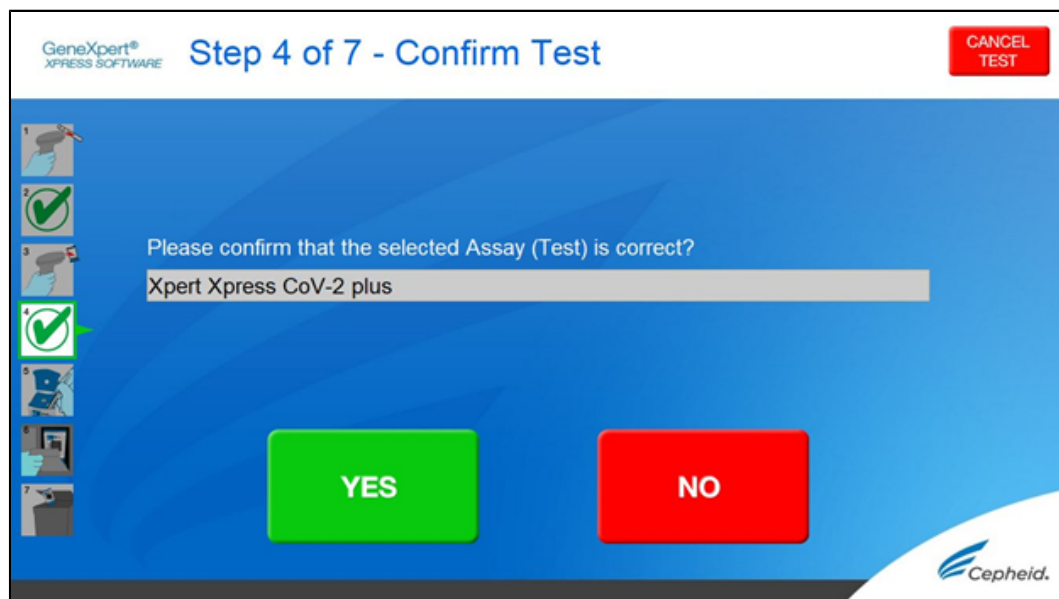

Figure 10. Confirm Test Screen
4. Confirm the selected test from the **Select Assay** menu (shown in Figure 10 below) and touch **YES** if the displayed information is correct. Enter your user name and password if prompted.
10. Keeping the pipette below the surface of the liquid, release the top bulb of the pipette slowly to fill the pipette with sample before removing from the tube. It is okay if liquid goes into the overflow reservoir (see Figure 10). Check that the pipette does not contain bubbles.